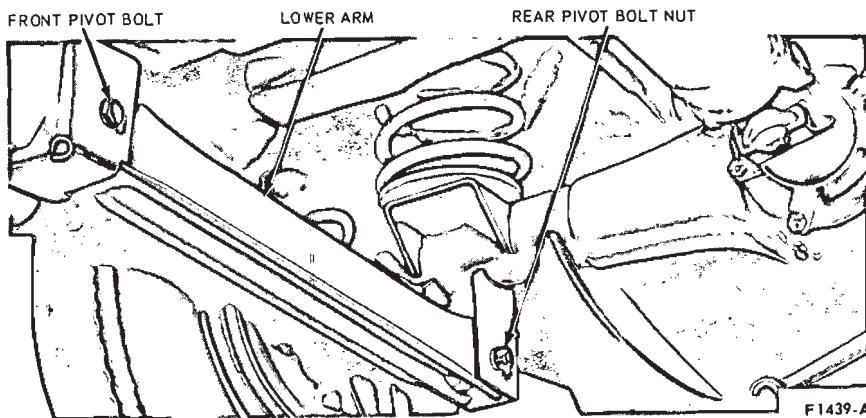

FIG. 11—Rear Suspension Lower Arm Installed
1. Position the lower arm in the bracket on the frame side rail. Install a new pivot bolt and new nut (Fig. 11). Do not tighten the nut at this time.
2. Position the lower arm to the axle bracket and install a new bolt and new nut (Fig. 11). Do not tighten the nut at this time.